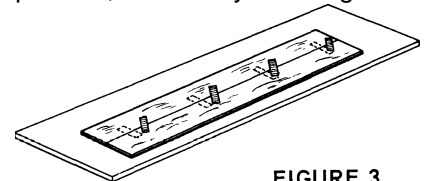

FIGURE 3
**Step 4.** Now lay the sheets down flat on the table, with the tape hinges down. The butt joint will close tight, and excess glue will squeeze out. Wipe it off, then tape the top together, so both sides are now firmly held together in the flat position, and let dry. See Fig. 3.